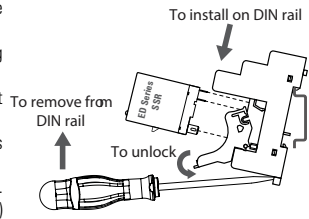

fig. 1 DRSED Socket Mounting/Dismounting
- Insert ED Series SSR into DRSED socket observing terminals orientation (fig. 1).
- Install the ED Series SSR / socket on the DIN rail as shown in fig.1
- To retrieve the ED Series SSR from socket, first unlock latching mechanism, as shown in fig.1, then gently pull the SSR.
- Release DRSED socket from DIN rail using a screwdriver. See fig.1.